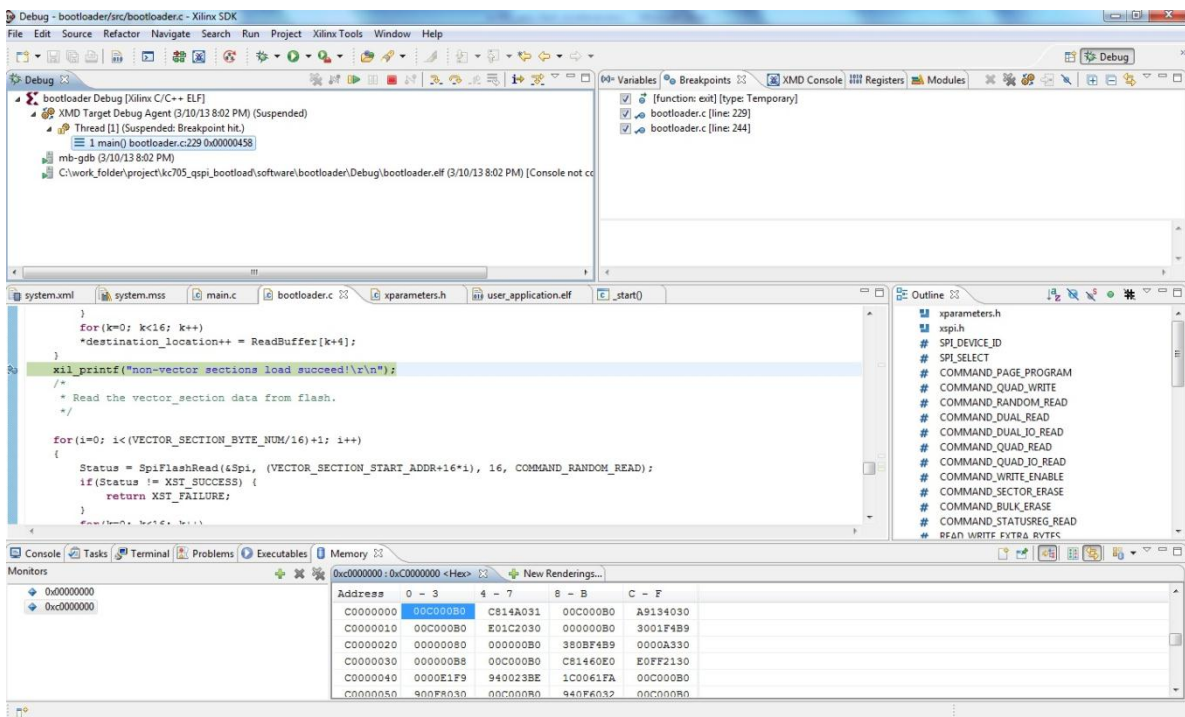

Figure 12
- f. Click **Resume** button, the breakpoint at line 225 will be hit. The memory view for 0xC0000000 will change. Compare the data with **rest_section.bin** file, user can find out if any data is copied incorrectly(Figure 12).